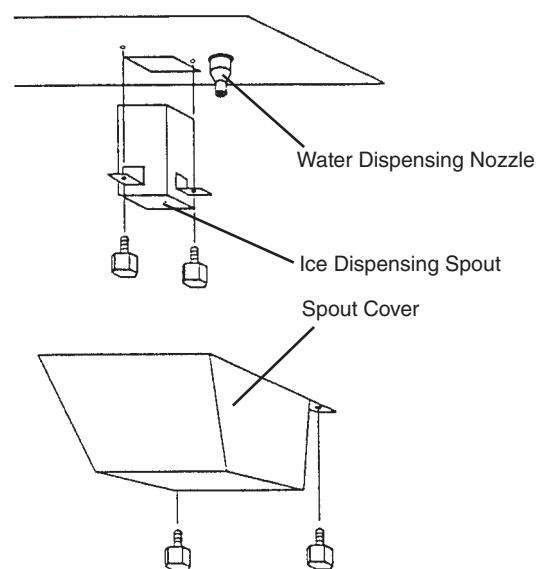

Fig. 8
- 8) Remove the spout cover, ice dispensing spout, and water dispensing nozzle. See Fig. 8.